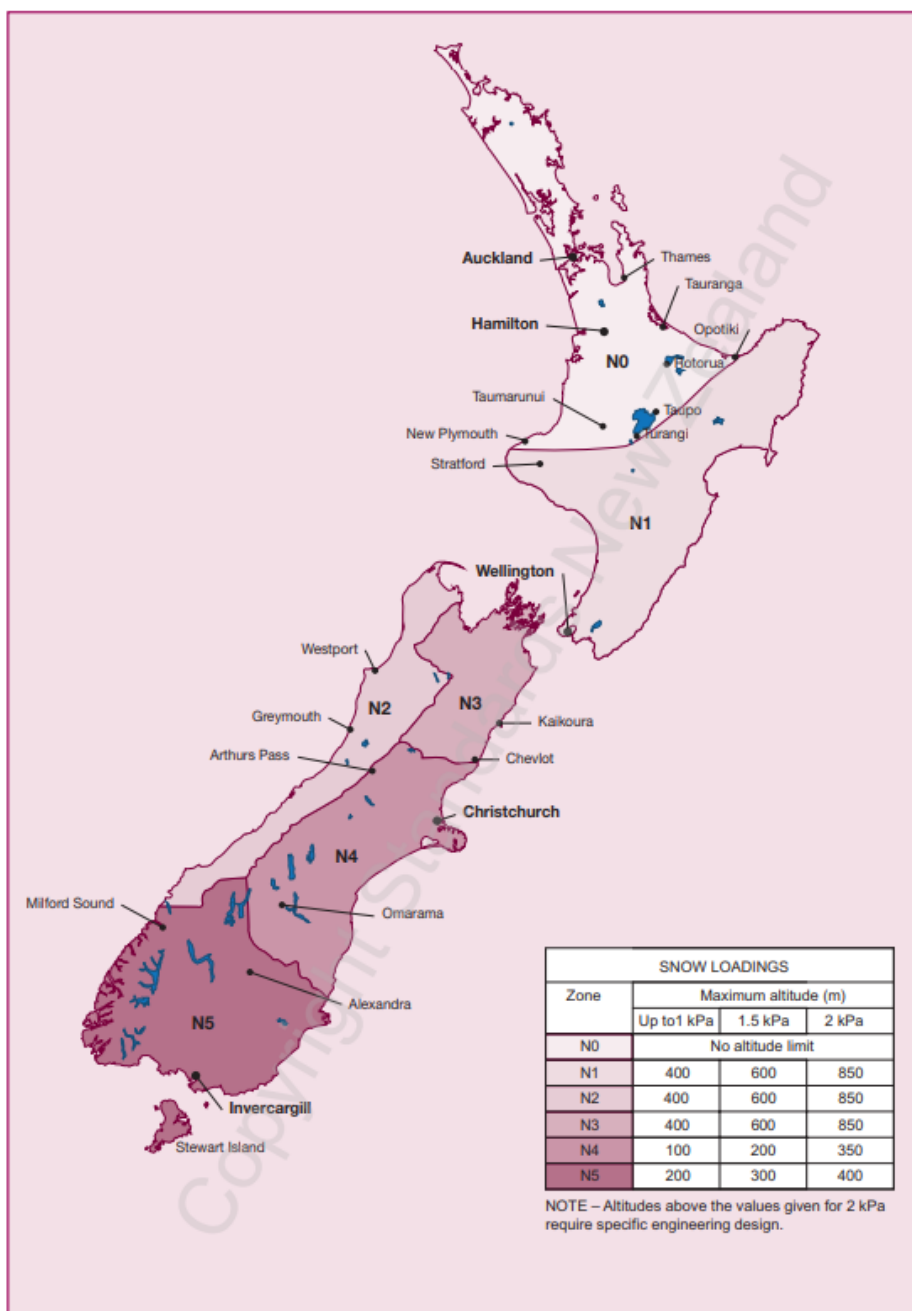

Figure 15.1 – Snow zones
- for sites with snow loadings above 2.0kPa as identified by Figure 15.1 NZS3604:2011 (ie above 350m altitude for our region N4).